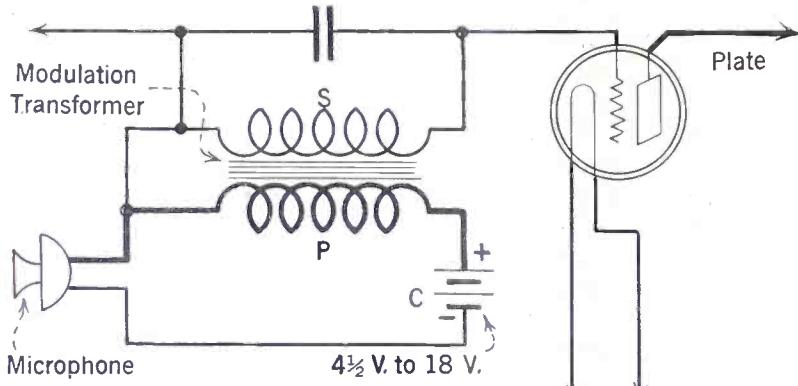

FIG. 2, showing how to connect a modulation transformer in the grid circuit of the oscillator tube. The secondary of MT takes the place of the grid resistance.
FIG. 2.—The panel layout of the Super-Heterodyne. The panel is 7x26". Only 3" dials can be used on the Acme vernier condenser because of the extension of the vernier knob.
The next method of modulation is by varying the grid voltage of the oscillator tube in a self excited transmitting system. See Fig. 2 for the diagram illustrating the method. The main trouble in this method is the fact that the oscillator has to do two things, (1) generate the current, (2) modulate it. These functions cannot be combined successfully. This voltage-variation method is only to be used with low power too.
The marvelous feats of this set, its compactness and the wonderful volume and selectivity, combine to afford the highest virtues. Fig. 2 shows how the front of the portable set looks when completed.
FIG. 2, how the whole set looks when the case is opened up. The coil antenna is in the cover at the right-hand side of the picture. The batteries are placed in the back of the receiver. Note the novel way in which the Crosley Musicone speaker was installed in the case. The set was in operation when this picture was taken.